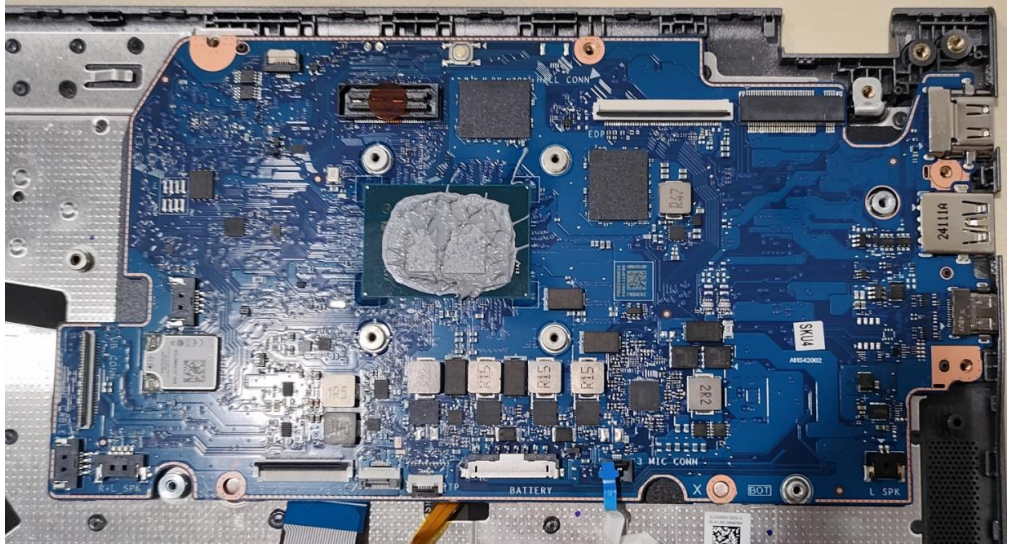

Figure 3-37. Mainboard Removal
3. Release the mainboard from the I/O ports slots and guide pins on the top assembly (Figure 3-37). Remove UB FFC, Then remove the mainboard.